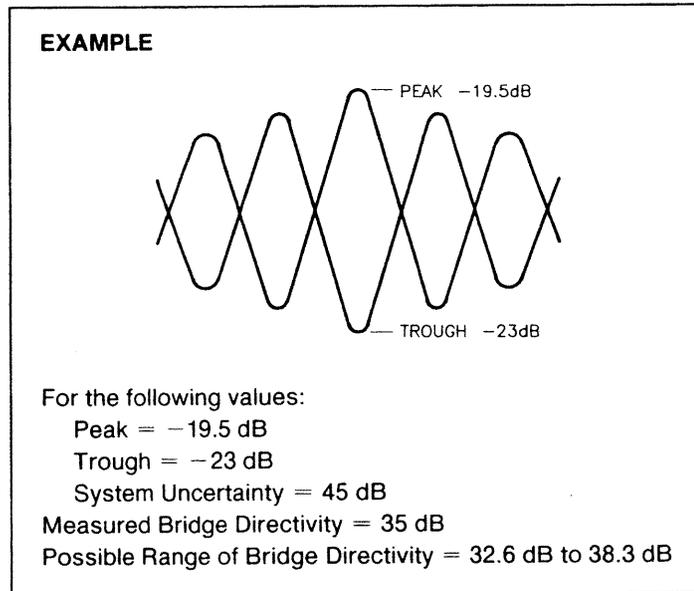
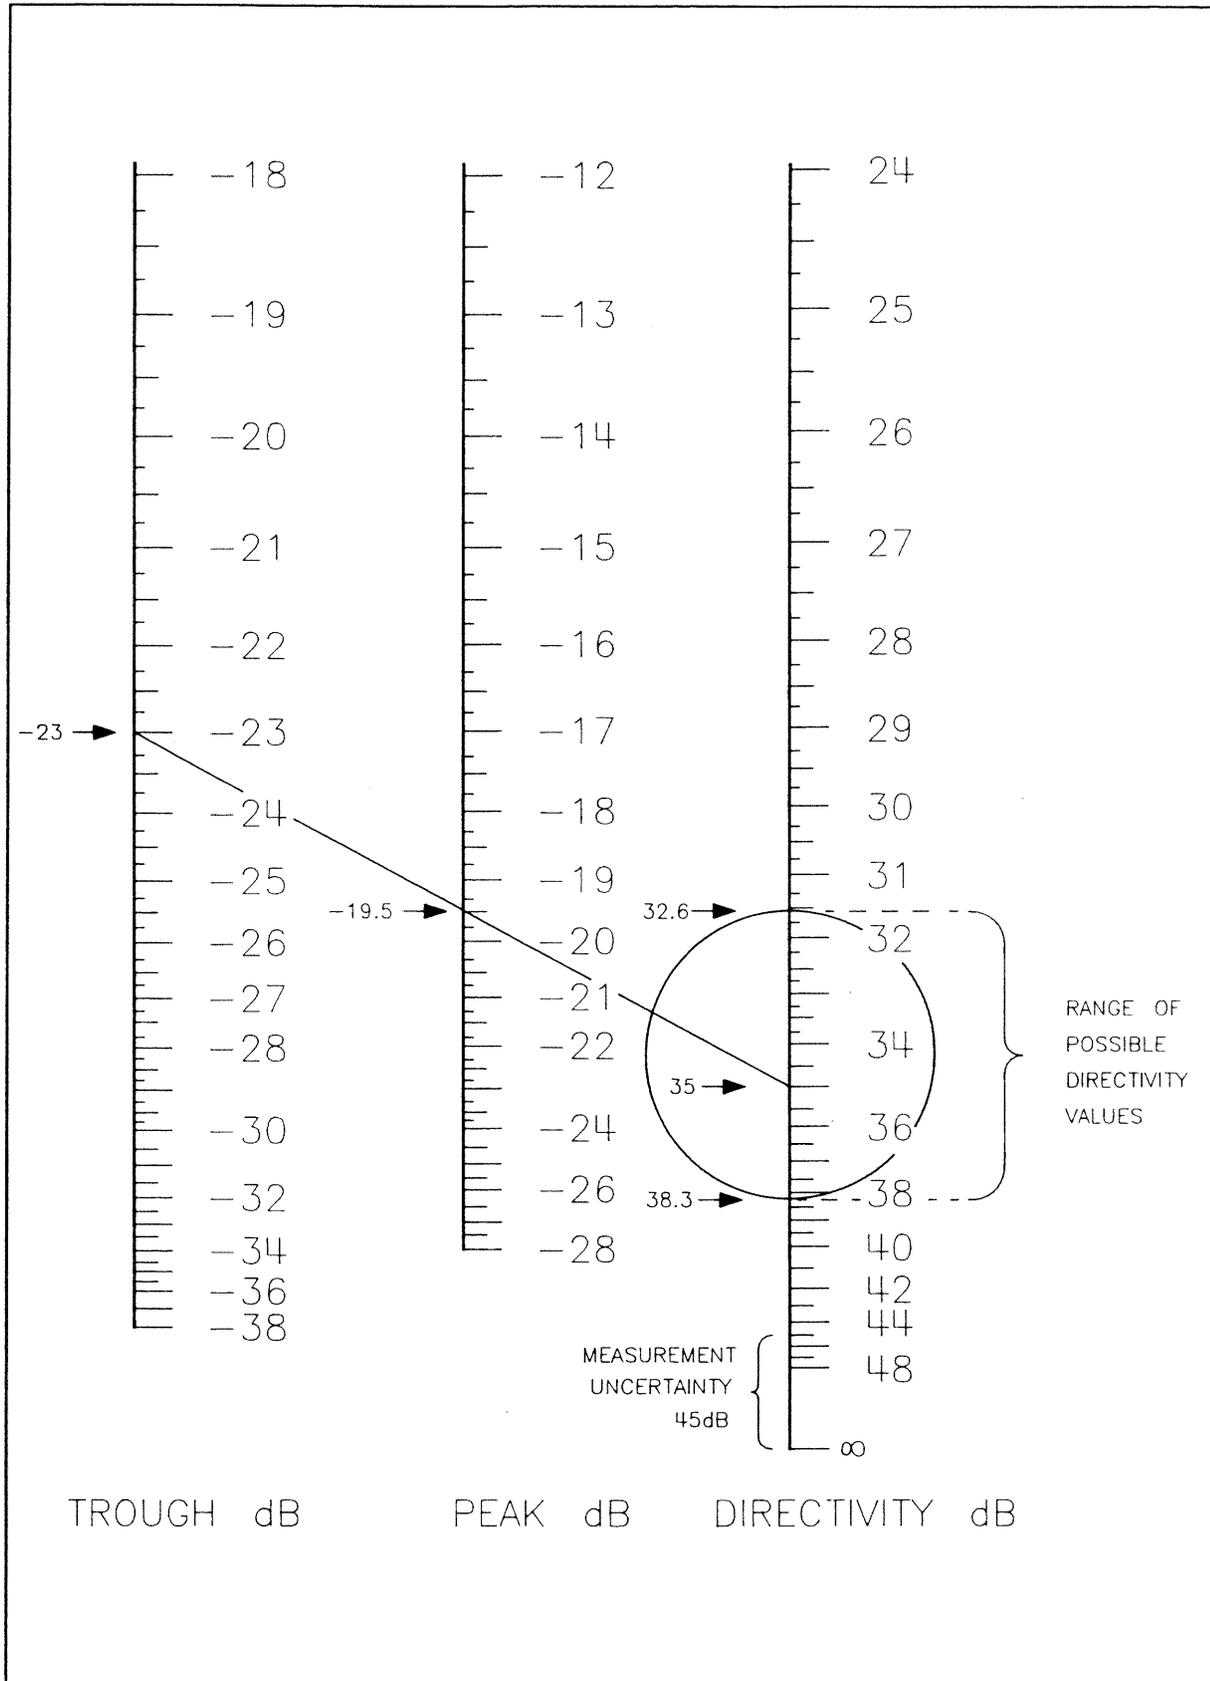

Figure 4-3. Peak and Trough of Envelope
Figure 4-5A. Directivity Nomogram Example
7. Use the analyzer front panel knob to position the cursor to the peak value. Figure 4-3 shows examples of peak and trough values in an envelope. These example values will be used later in the example nomogram. Press **[AVG] [AVG ON]**. Allow the trace to settle. Record the cursor value as **Peak Value** on the Performance Test Record.
3. Without moving the straight edge, read the calculated directivity as the value where the straight edge intersects the directivity scale. Figure 4-5A shows an example using the values from Figure 4-3.